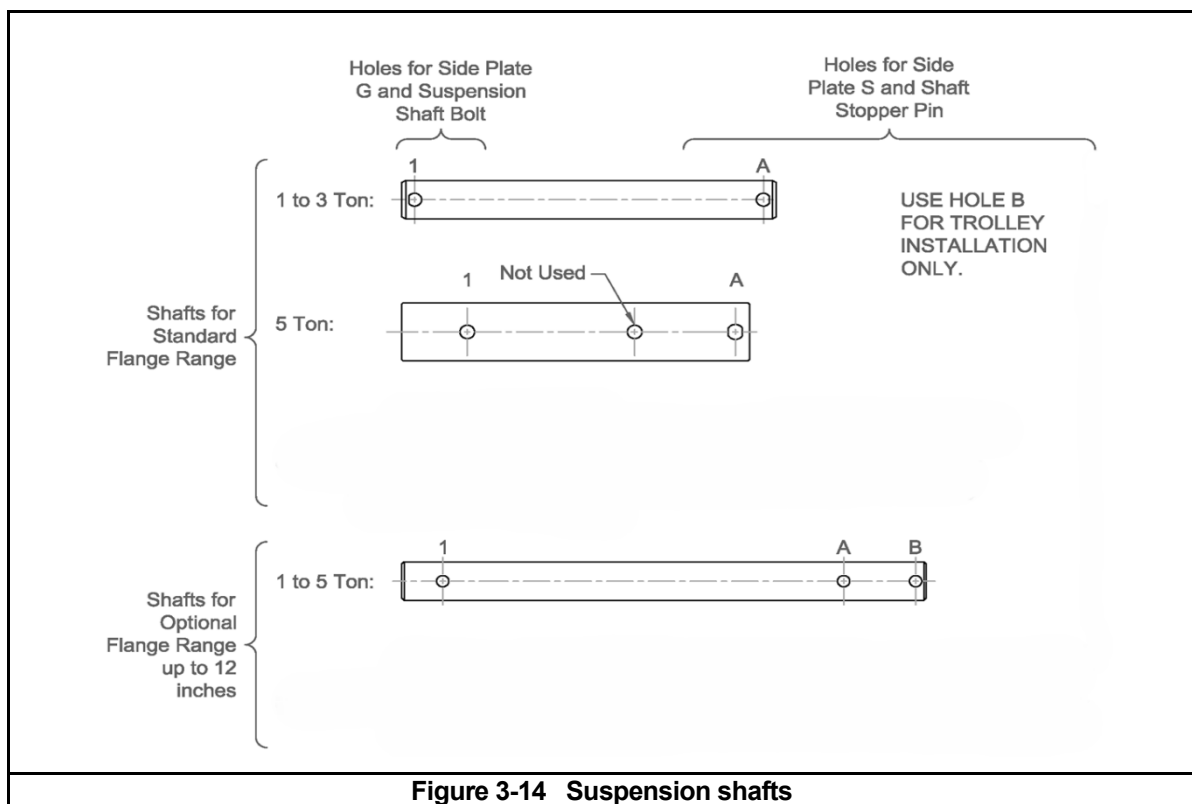

Figure 3-14 Suspension shafts
- 2) Insert the Suspension Shaft to Side Plate G or S and attach it with the Shaft Stopper Pin and Split Pin (cotter pin). **Refer to Figure 3-14** to ensure that the correct Suspension Shaft holes are used. Securely bend both branches of the Split Pin after insertion.
- 1)** Move the Shaft Stopper Pin to Hole B (see **Figure 3-14**).
- 5)** Remove the Shaft Stopper Pin from Hole B and re-install in Hole A (see **Figure 3-14**). Bend the Split Pin securely. Never use trolley with Shaft Stopper Pin in Hole B. Hole B is ONLY used when installing the trolley on the beam.